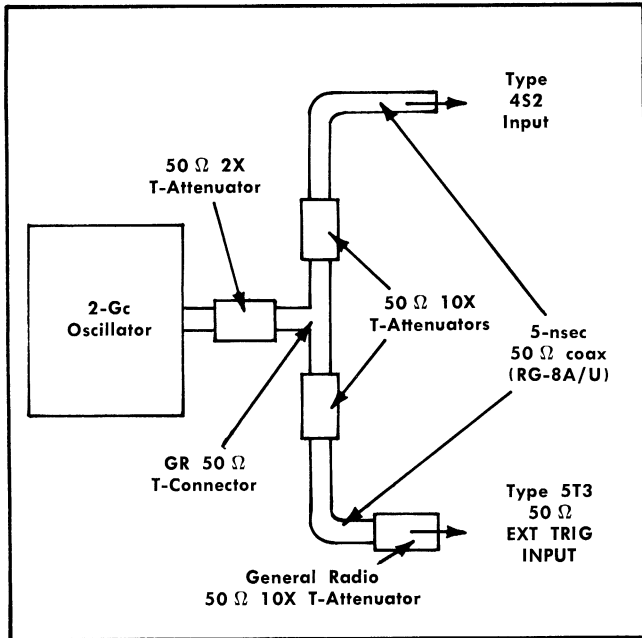

Fig. 5-41. Signal connections for 2-Gc UHF Sync check.
e. Connect a 2-Gc oscillator signal to the sampling unit vertical input and to the Type 5T3 50 Ω EXT TRIG INPUT as shown in Fig. 5-41.